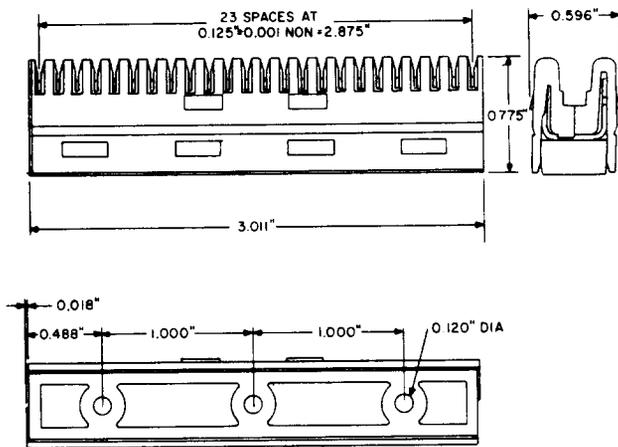

Fig. 3—94-Type Connecting Block
3.01 The 94-type connecting block consists of a molded plastic base which provides a nest for 24 "U-" shaped, double-ended quick connect metal terminals and a second molded section which snaps into the base to retain the terminals and provides for mounting. The 94-type connecting block is a slotted beam insulation displacement-type that permits a solderless, stripless connection to be made. (See Fig. 3.)